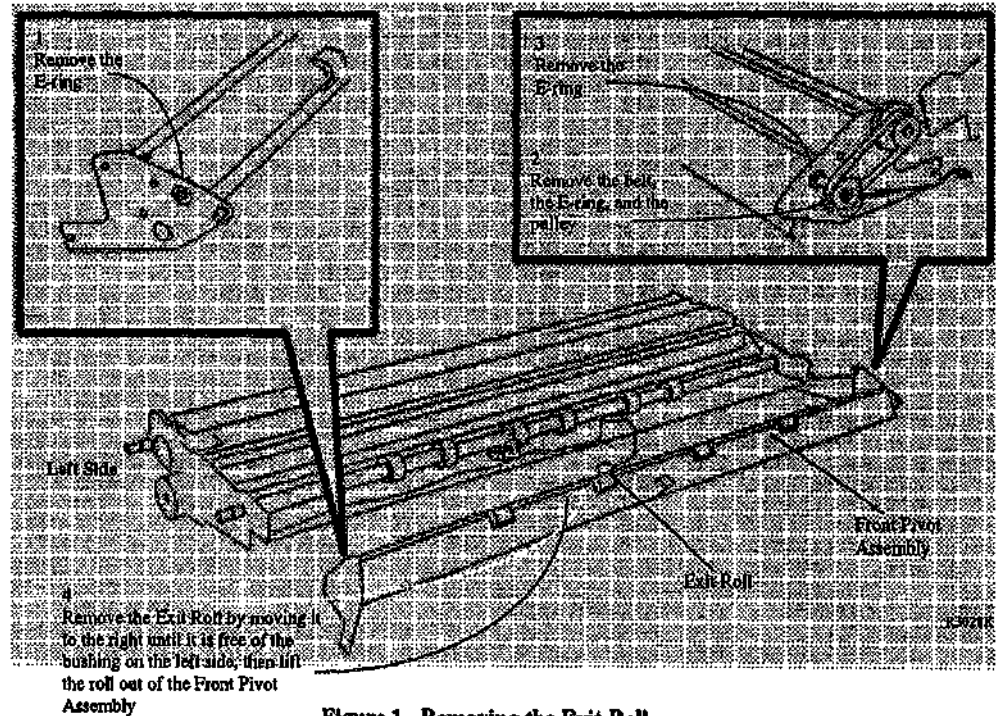

Figure 1. Removing the Exit Roll
4. (Figure 1): Remove the Exit Roll from the Front Pivot Assembly.